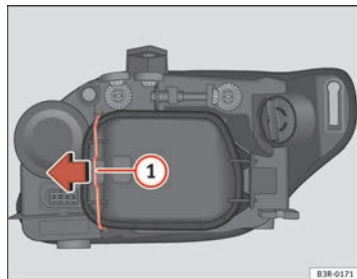

Fig. 202 Side light bulb (inside of vehicle)
- Move the brace ⇒ fig. 202 ① in the direction of the arrow and remove the rigid cover, separating the brace side and then removing the two tabs from the other end of the cover.